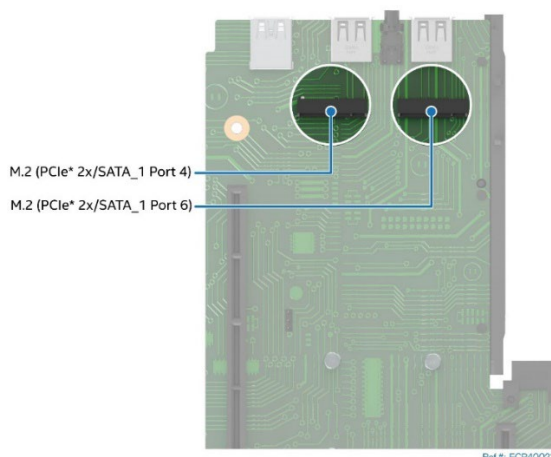

Figure 46. M.2 SSD Connector Location
4. Locate the M.2 connectors towards the back edge of the server board. See Figure 46.